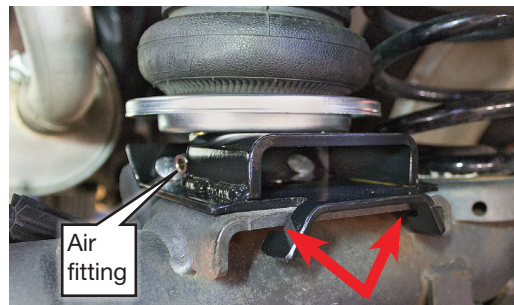

fig. E.4
3. Set the passenger's (right) side assembly on the jounce bumper strike plate with the previously installed carriage bolts still in the slots. The air fitting (or air fitting and braided stainless steel air line on Ultimate Plus kits) will point to the center of the vehicle. Hook the tabs on the bracket below the strike plate behind the axle. Push the assembly forward while lining up the carriage bolts with the existing holes in the front of the lower jounce bumper strike plate (Fig. E.4).